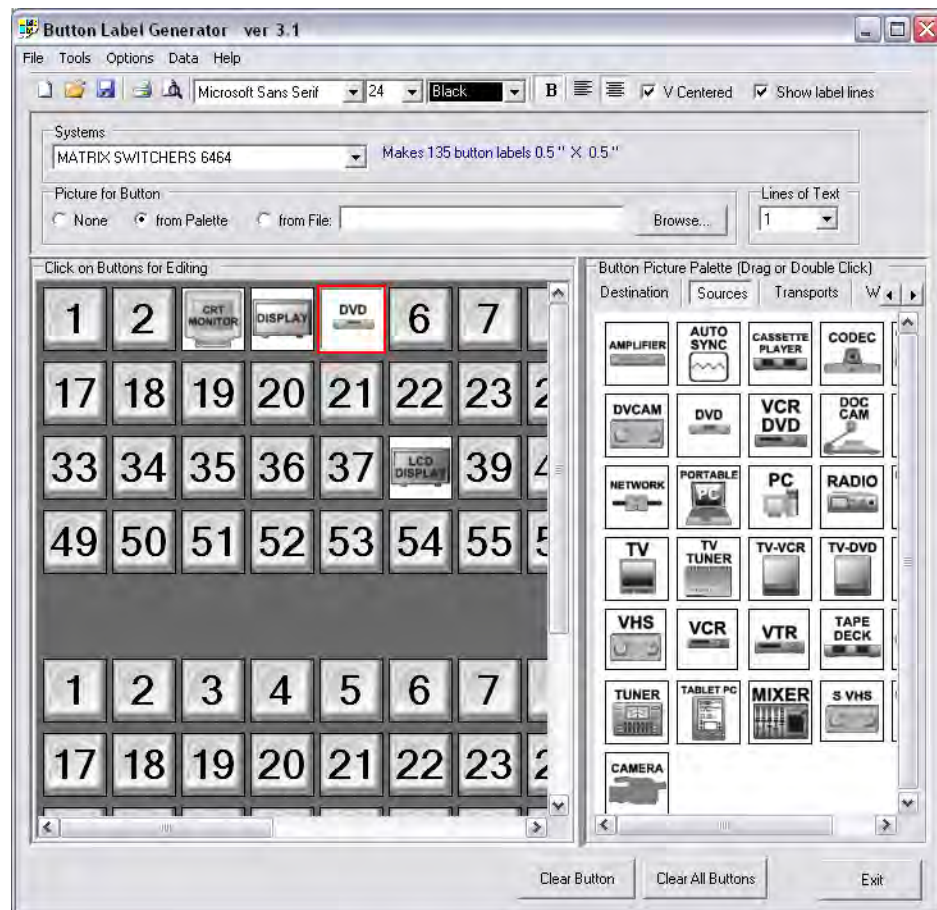

Figure 80. Extron Button-Label Generator Window
1. To run the Button-Label Generator program, click **Start > Programs > Extron Electronics > Button Label Generator > Button Label Generator**. The Button-Label Generator window appears (see figure 80).